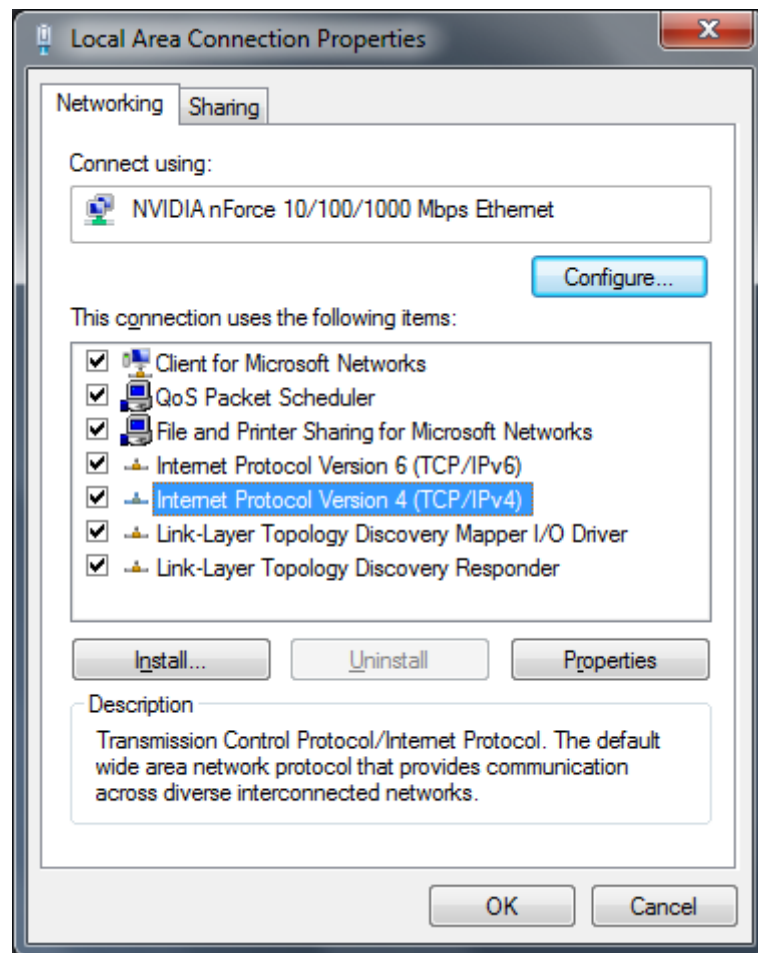

Figure 6.11 – The Local Area Connections Properties Dialog
3. In the *Networking* tab, go to *Internet Protocol Version 4 (TCP/IPv4)* and then *Properties* (Refer to Figure 6.11).